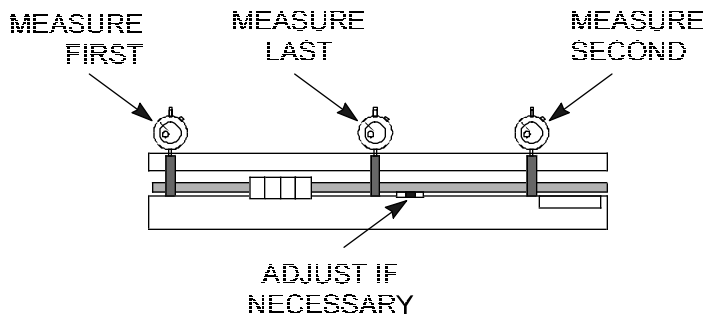

Figure 3-12. Measurement Positions for Slide Shaft.
2. Place gauge against left side of shaft assembly allowing micrometer tip to rest directly on top of shaft. See Figure 3-12. **Zero the gauge** (this is to become the reference point).